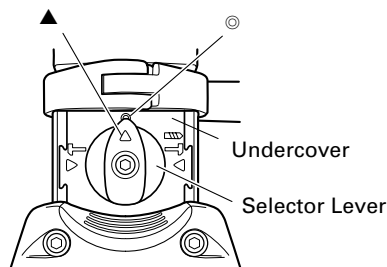

Fig. 8
- (2) When fixing working positions of tools such as cold chisel, etc.,
- (a) Pull the selector lever, release lock and turn it. Align ▲ of the selector lever and ◎ of the undercover as illustrated in Fig. 8.